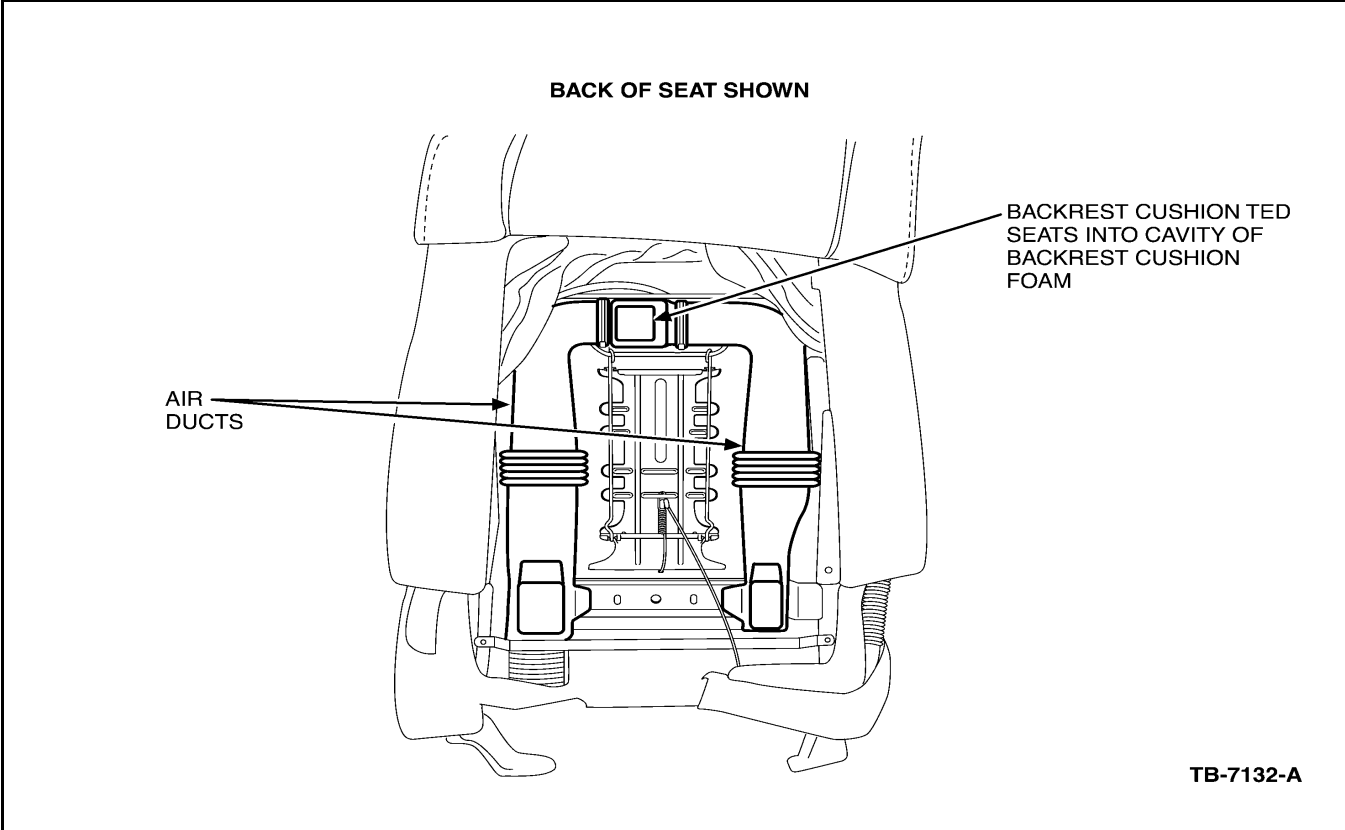

Figure 4 - Article 04-26-19
- Check the seat backrest TED to make sure it is properly aligned. The seat backrest cushion integrates a round cavity into which the TED must seat (see Figure 4). If the TED is misaligned or is incorrectly seated in the cavity, the seat may overheat and shut down.